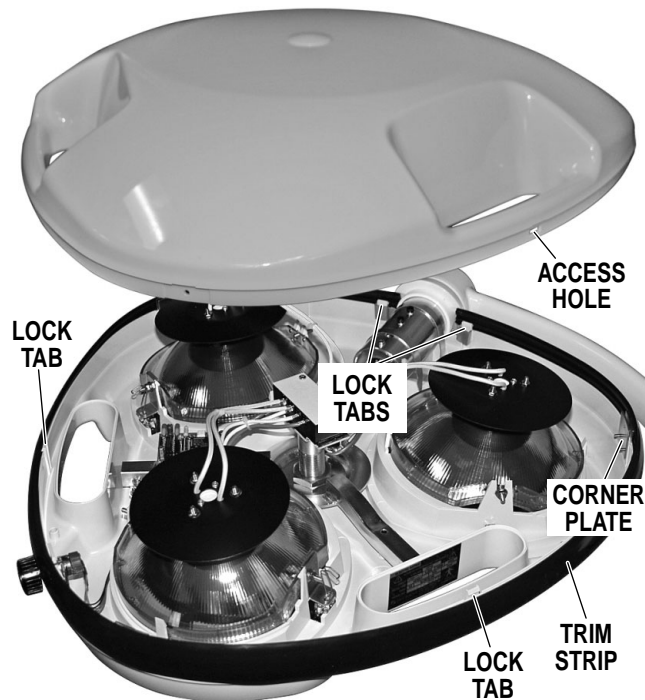

Figure 8. Top Cover Removal
a. Remove the top cover using the following procedure: See figure 8.
1. Carefully move trim strip for access to the corner plate screws and remove the (3) top screws.
2. Using a 1/8" straight blade screwdriver, release the (4) lock tabs and remove the top cover.